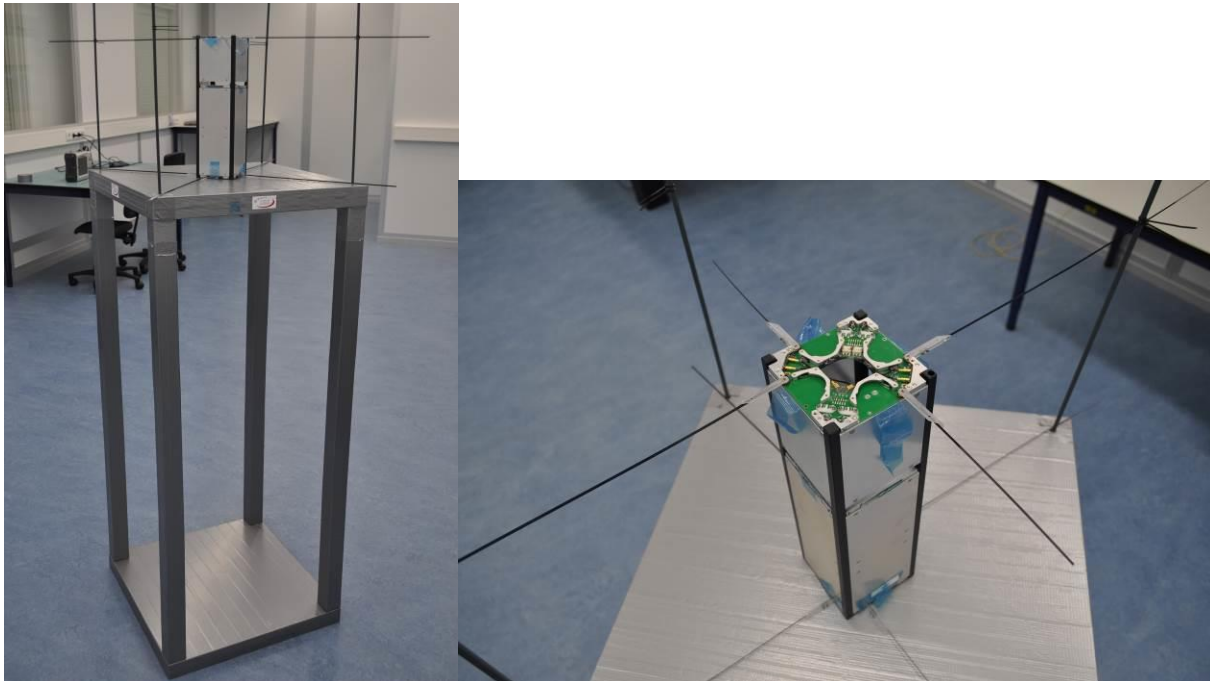

Figure 5-11 Antenna resonance tuning setup
- The measurement area should be set up such as to limit the influence of reflections from metal objects or people within 3-5 wavelengths (refer to Figure 5-11).